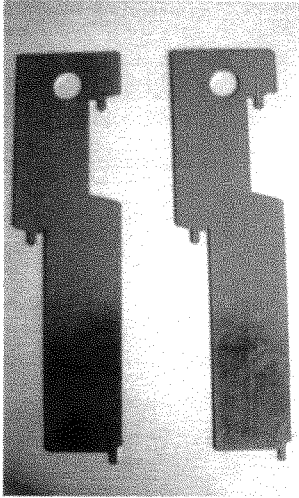

Figure 18 – Energy Drink Spacers
- a. In order to vend 8.5oz can you must install the spacers (reference figure 18 & 19).